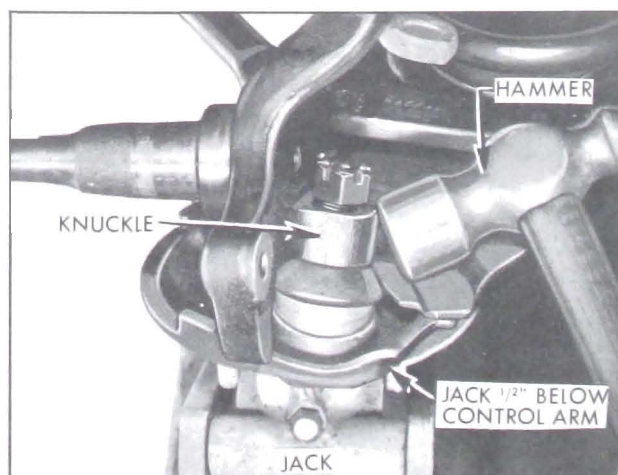

Figure 7-15—Separating Ball Stud From Knuckle
8. Rap the steering knuckle in the area of the stud to separate the stud from the knuckle. See Figure 7-15. Raise the jack against the control arm to relieve pressure on the nut, remove the nut and separate the steering knuckle from the tapered stud.